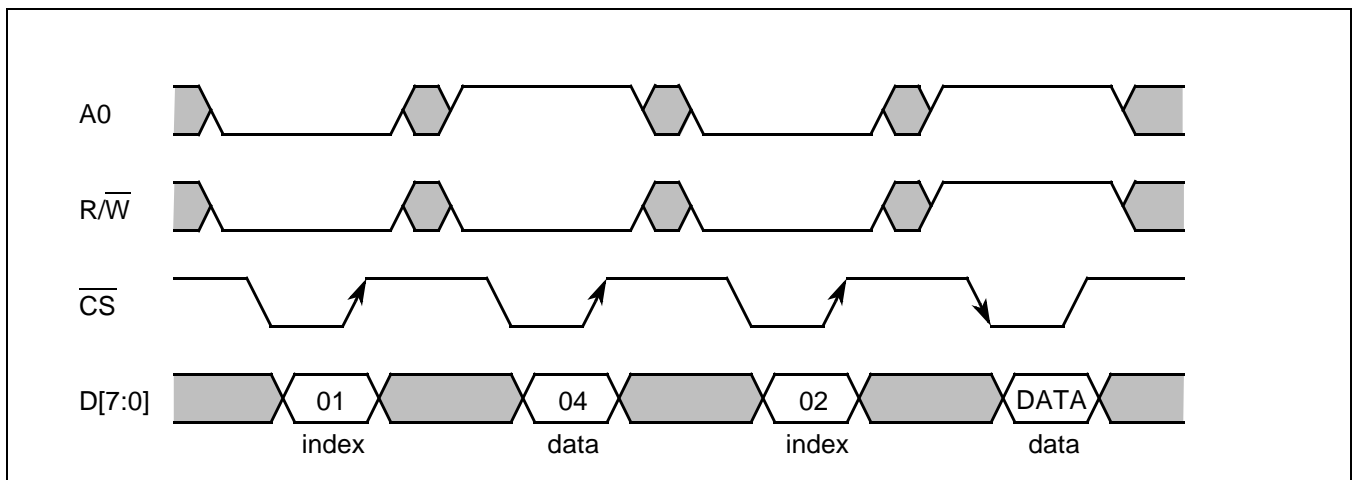

Figure 16. Control Register Write/Read Sequence
The KS0125 uses a parallel host interface for programming the control registers and OSD RAM. The bus consists of one address line, eight data lines, one read/write (R/W) line, and one chip select (CS) line. To access the control registers, an index is first written to the index register (A0 = 0). Then the data is read from or written to the data register (A0 = 1). Figure 16 shows how data is written to control register **REGB** (index 1) and how to read control register **VFLG** (index 2).